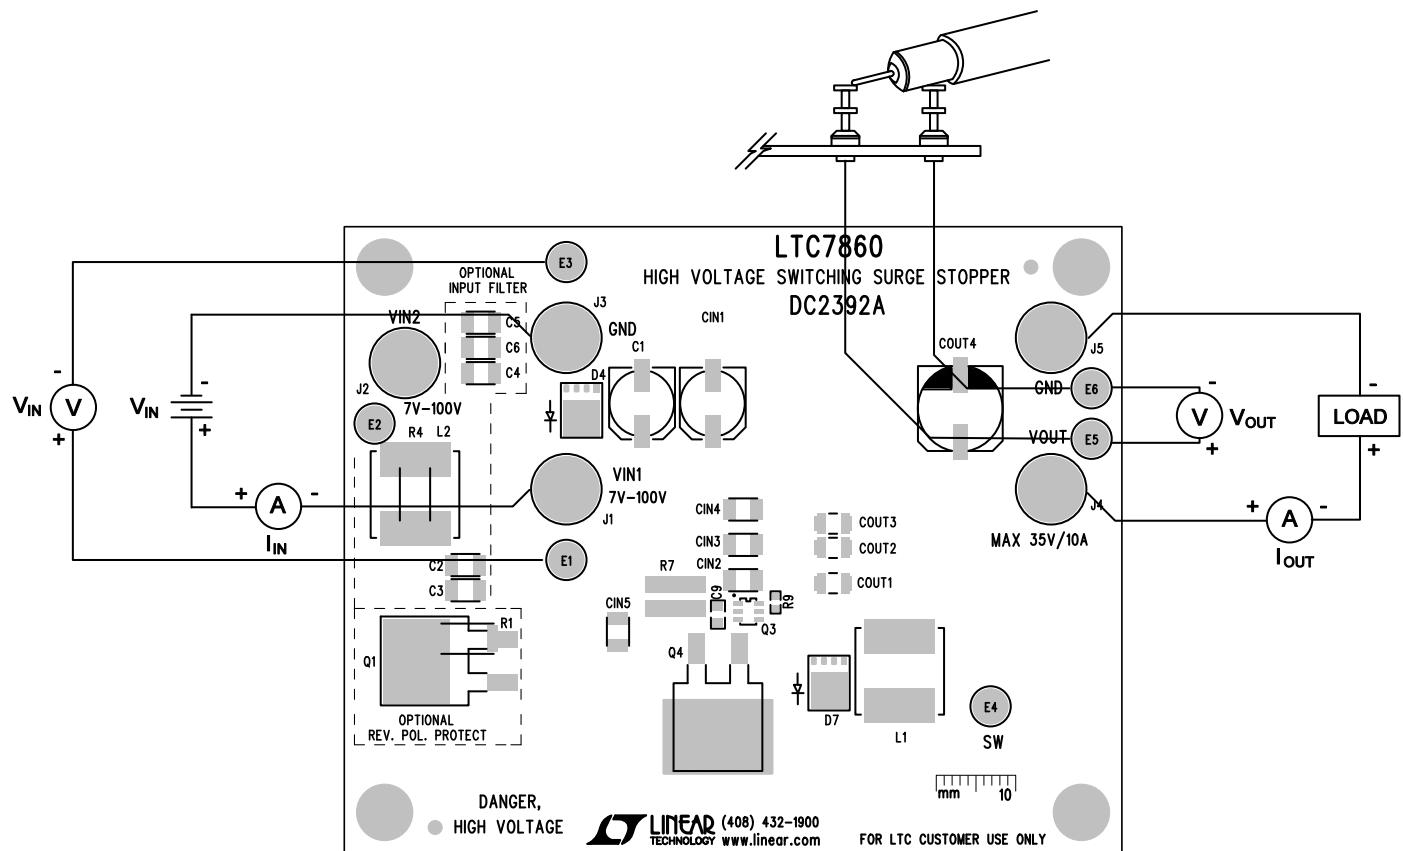

Figure 1. Proper Measurement Equipment Setup
Demonstration circuit 2392 is easy to set up to evaluate the performance of the LTC7860. Refer to Figure 1 for proper measurement equipment setup and follow the procedure below:
**NOTE:** When measuring the output voltage ripple, care must be taken to avoid a long ground lead on the oscilloscope probe. Measure the output voltage ripple by touching the probe tip and ground ring directly across the last output capacitor as shown in Figure 1.